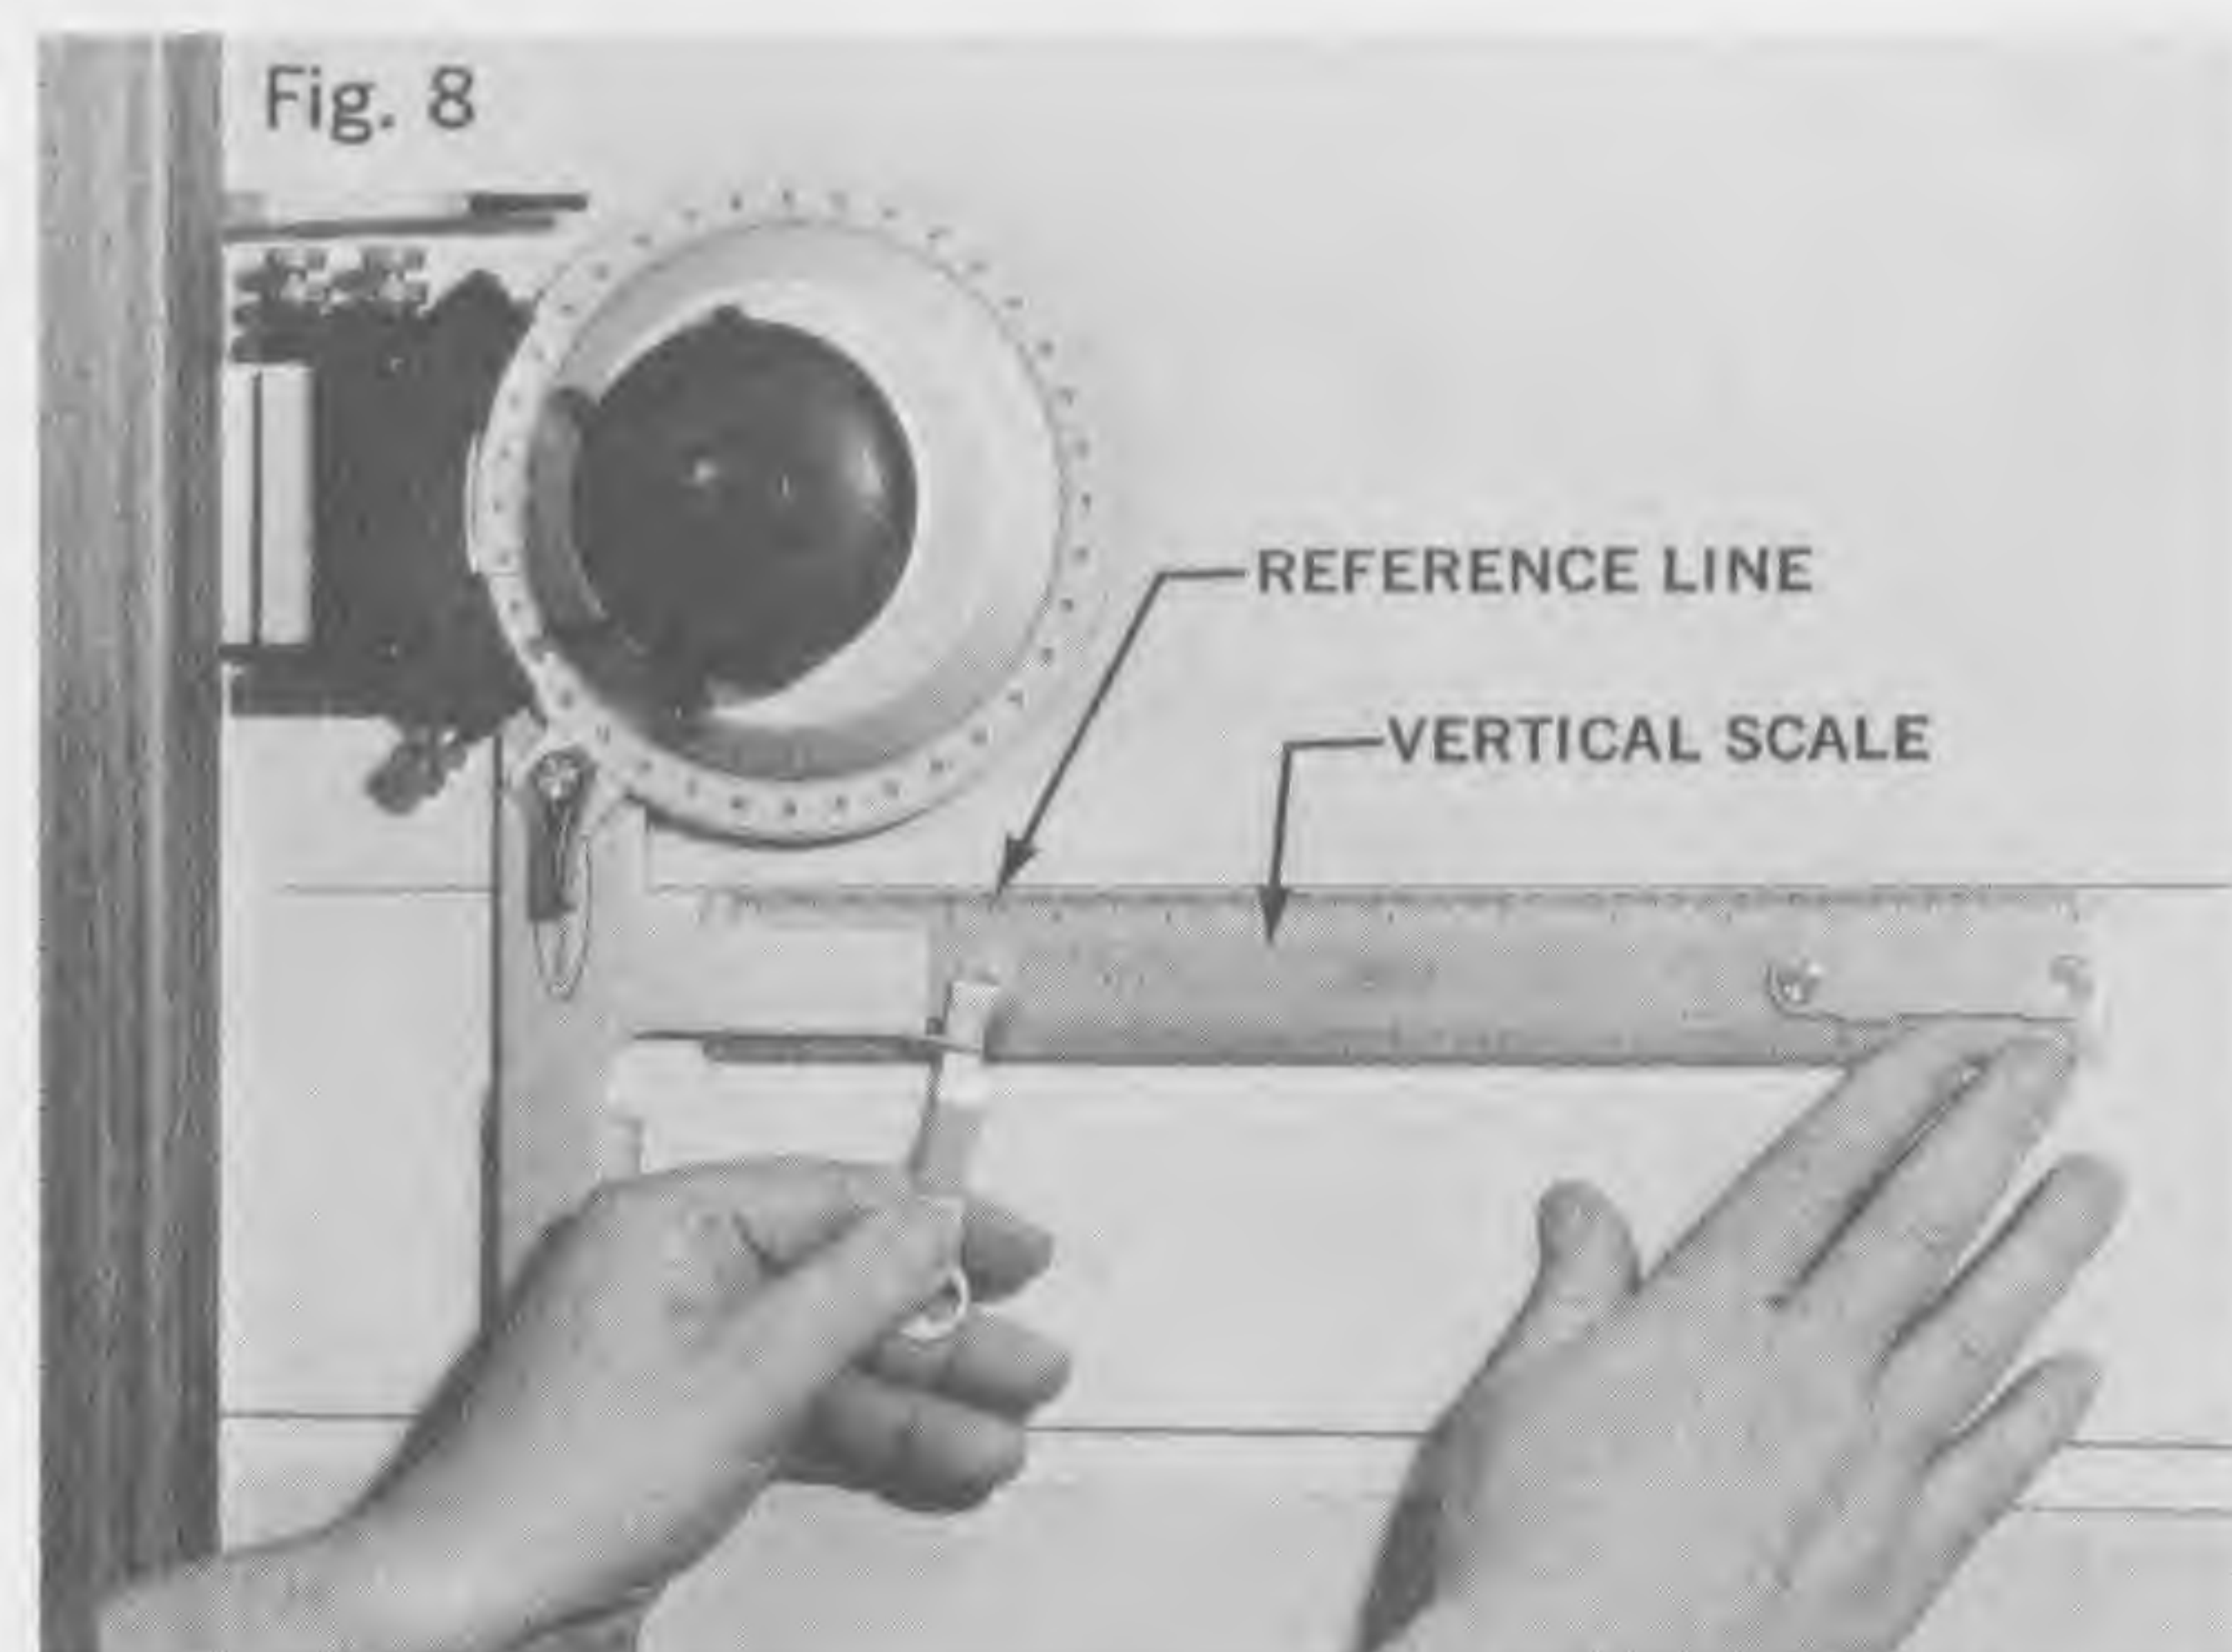

Fig. 8
5. Index the head 90 degrees clockwise (Fig. 8) and adjust both ends of the vertical scale in the same manner and along the same reference line as in step 4.